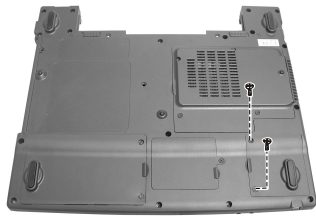

Figure 2-18 Remove two screws
2. Remove the two screws fastening the Mini PCI compartment cover. (Figure 2-18)